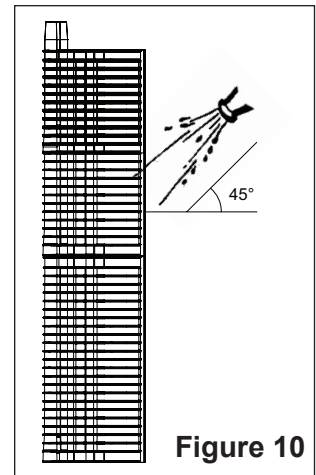

Figure 10
10. Using a garden hose with a straight flow nozzle, wash down the entire element. Wash from the top down, holding the nozzle at a 45-degree angle to the element. See **Figure 10**.